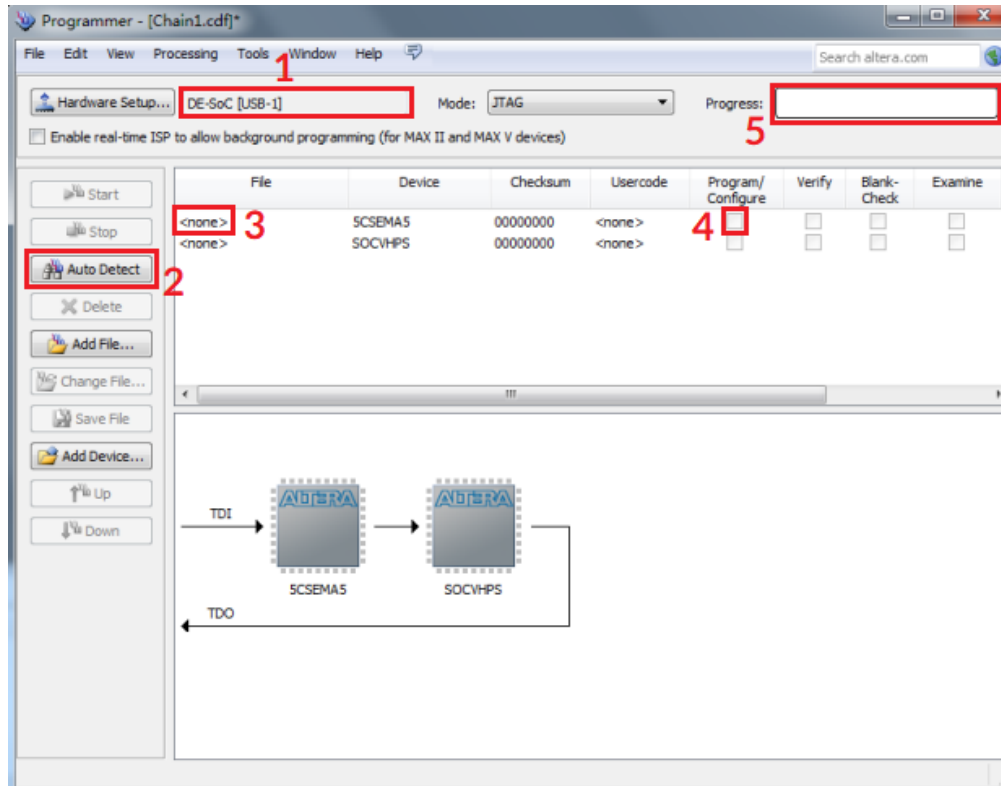

Figure 3: Quartus programmer window
6. In the programmer window (shown in Figure 3), you should see the text **DE1-SoC [USB-1]** next to **Hardware Setup**. This is shown in Figure 3 as item 1. If you do not see this, make sure you are connected to the FPGA and that the FPGA is powered on. Close the programmer window and reopen it to make sure the programmer can see the FPGA.
7. Now, you may see one device at the bottom. (Figure 3 shows two devices for example). Select the one device and press **Delete** to remove it. When both the top and bottom windows on the right side are empty, click on **Auto Detect** (2 in Figure 3).
9. You should now see the Programmer window again and it should look identical to Figure 3.
12. Next, check the **Program/Configure** box (shown as 4 in Figure 3). Then click **Start**.
13. The FPGA should now be programmed. You can confirm this by checking the **Progress** box (shown as 5 in Figure 3). This should say **100%**. If it instead says **Failed**, that means something went wrong and you should debug your design.